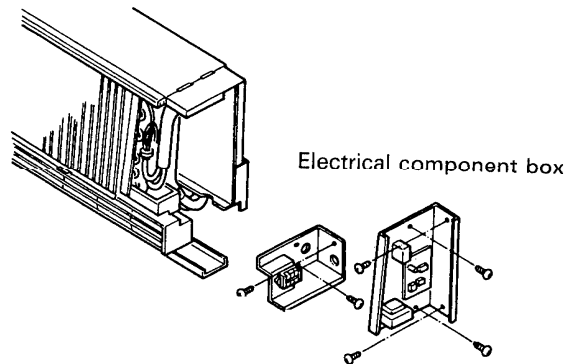

Fig.2
- 6) The electrical component box can be pulled out by unfastening six screws. Fig. 2